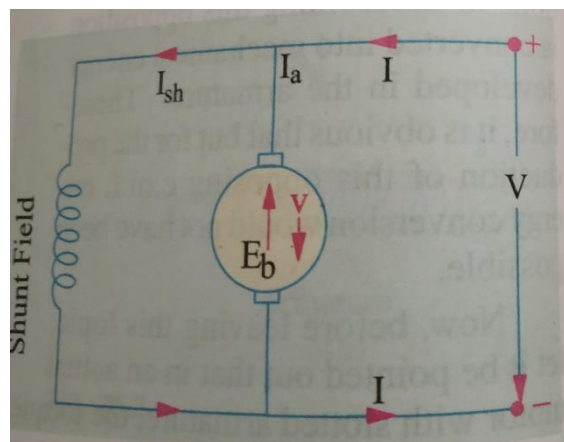

Fig. 2.2 DC motor
- When the armature of a DC motor rotates, the armature conductors also cut the main field flux and hence emf is generated in the armature conductors. The emf so generated in the armature is called the counter emf as it opposes the flow of armature current. The emf is also known as back emf as it is the voltage at the back of armature resistance. The direction of this back emf can be found by applying Fleming's right-hand rule and it is seen that the back emf is in direct opposition to the applied voltage to oppose the flow of armature current as shown in the fig. 2.2. The applied voltage is always greater than the back emf so that it can be able to drive the armature current against the opposition of the back emf and the work done in overcoming this opposition is converted to mechanical energy. The back emf is denoted by  $E_a$  or  $E_b$ . The power required to overcome this opposition is  $E_a I_a$ . The magnitude of the back emf is given
by  $E_a = \frac{\Phi Z N}{60} \times \frac{P}{A}$  volts. The back emf depends upon the speed. As shown in fig. 2.2,
- Let us consider a shunt motor as shown in the fig. 2.2. The applied voltage has to overcome the back emf as well armature resistance drop. Hence, the voltage equation of the motor is given by  $V_t = E_a + I_a r_a$ . Multiplying both sides by  $I_a$  in this equation, we have,  $V_t I_a = E_a I_a + I_a^2 r_a$ .